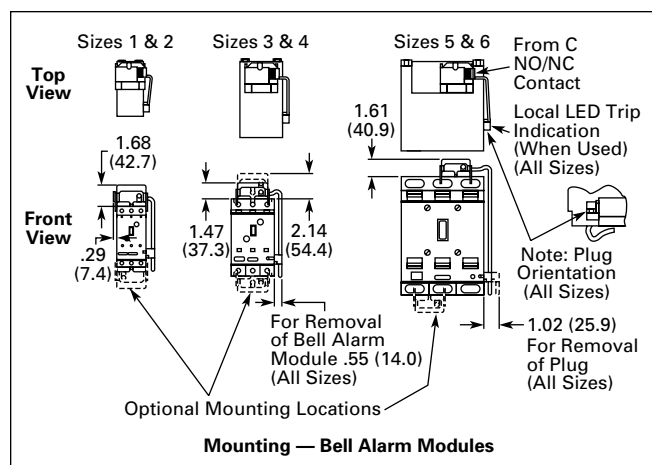

Figure A-51. Approximate Dimensions in Inches (mm)
- Simple snap-on mounting — see mounting examples in **Figure A-51**.